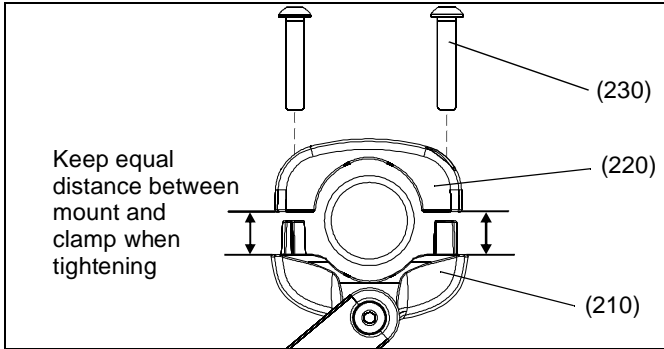

Figure 4:
NOTE: Equally tighten screws (230) against front pole mount (210) and rear (220) pole clamps. (see Figure 4)